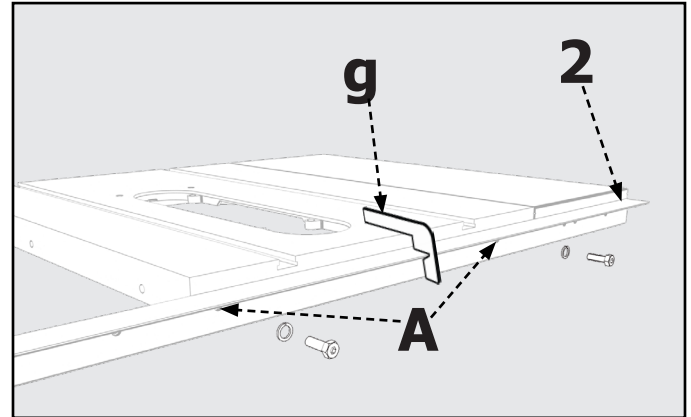

FIGURE 4
1. With the edge of the Rear Guide Rail (2) near the edge of the Left Extension Wing, align the Two Holes in the table with the Two Holes in the Rear Guide Rail, as indicated at location "A" in **Figure 4**.